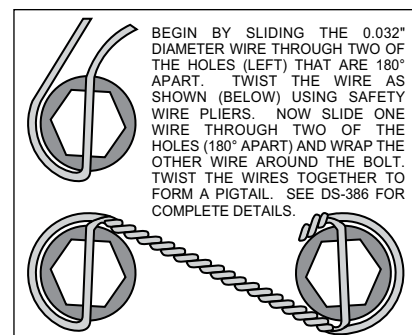

Figure 5. Safety Wire Diagram
- Make sure this is the correct kit to fit the axle housing flange, not necessarily the rear end make. Many times after market manufacturers put a different make of axle housing flange on the stock rear end housing (see Figure 5). Example; Big Ford rear ends with Olds-Pontiac flanges, therefore, an Olds-Pontiac rear disc brake kit would be the correct kit to order. Also, shock clearance may be a problem. They may have to be modified and/or relocated to clear the Wilwood kit after final assembly.
- With the larger I.D. side of the rotor (3) facing away from the hat (2), bolt rotor (3) to hat (2) through the backside of the rotor using washers (4) and bolts (5). Apply red *Loctite*® 271 to the bolt threads and torque to 155 **in-lb** using a criss-cross pattern. For an added measure of security, the bolts may be safety wired using standard 0.032 inch diameter stainless steel safety wire as shown in Figure 5.. Please refer to Wilwood's data sheet DS-386 (available at www.wilwood.com/Pdf/DataSheets/ds386.pdf) for complete safety wire installation instructions.